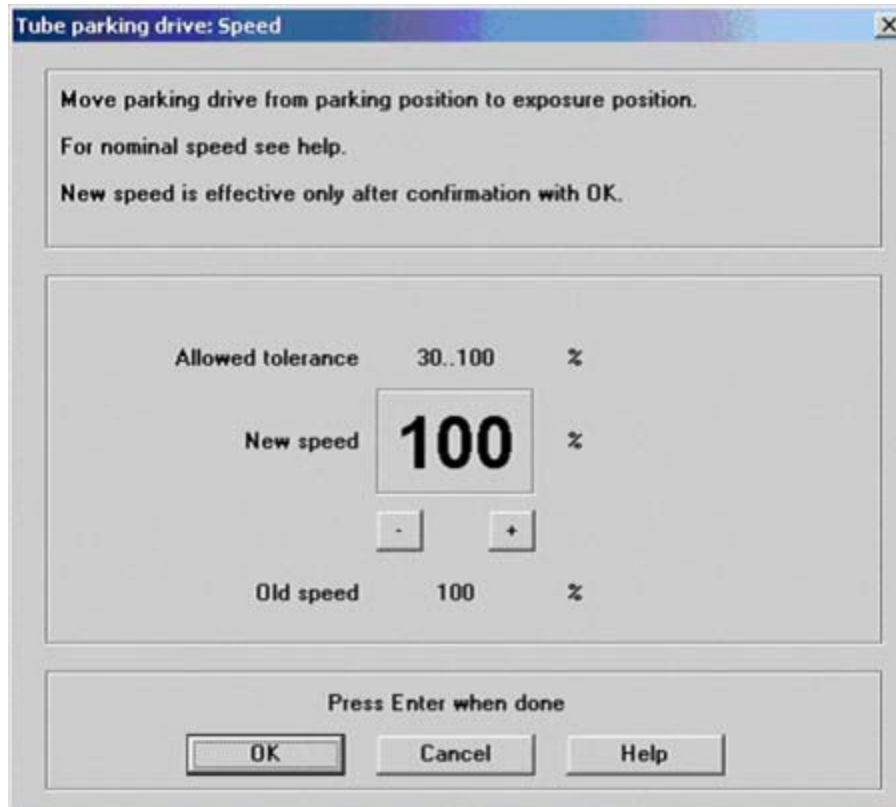

Fig. 24:
- Select **Execute** and note the displayed data (Fig. 24 / p. 45).